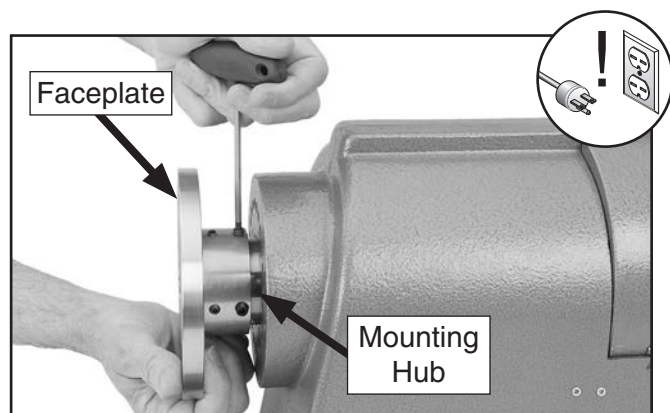

Figure 46. Loosening set screws on inboard mounting hub.
3. Loosen the set screws on the inner face of the mounting hub, as shown in **Figure 46**, then remove the mounting hub.